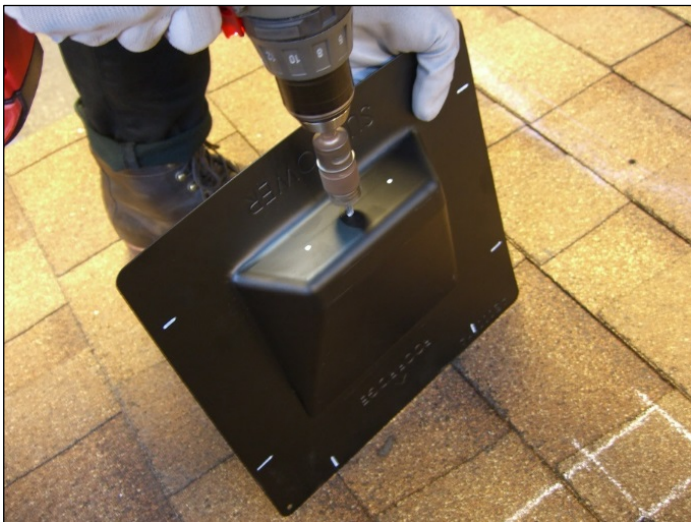

Fig. B6
- The flashing comes with three hole locations each marked with a white dot. Allowing for the size of your chosen gland, drill the flashing with a step drill tip (or knockout tool) centered on one of the dots (Fig. B6).